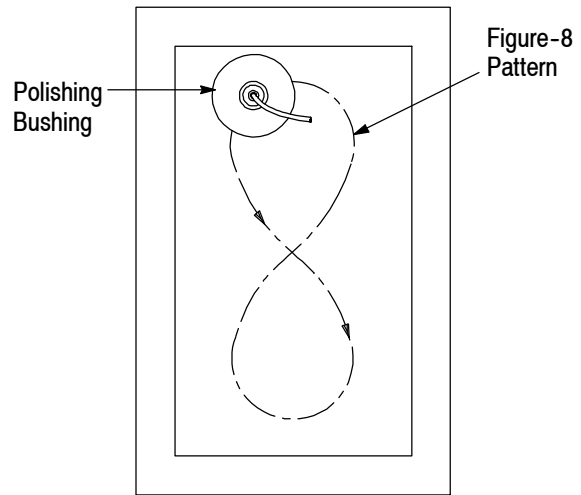

Figure 7
4. Holding the polishing bushing and terminus, place the polishing bushing on the film. Using light pressure on the ferrule, polish in an elongated figure-8 pattern (approximately 50.8 [2.0] long). See Figure 7. Make 15 figure-8 patterns.